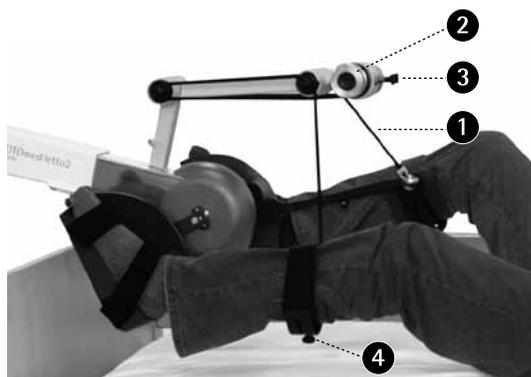

fig. 59
The »TrainCare comfort« leg guides (fig. 59) support the lower legs and prevent them from unintentional moving to the side, as they also prevent the knee joints from overstretching and blocking.
The calf shell rotary adjustment ④ (fig. 59) is individually settable on the right or the left side.